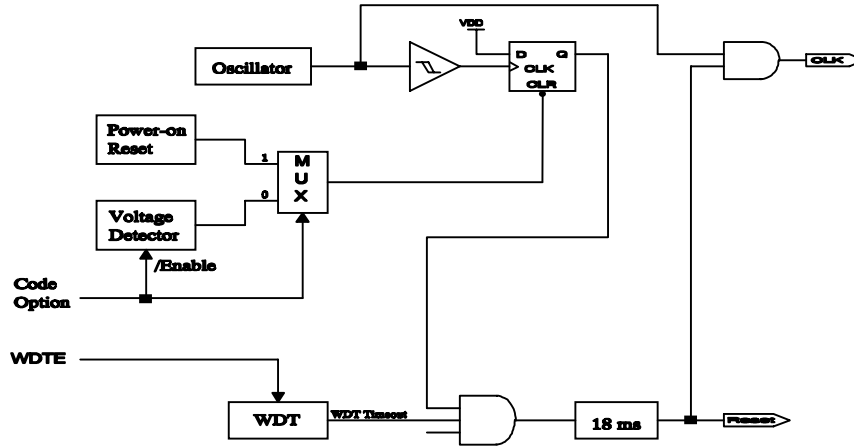

Fig. 8 Block diagram of Reset of controller
- (1) Power on reset, or Voltage detector
**(2) WDT timeout. (if enabled and in GREEN or NORMAL mode)**
Note that only Power on reset, or only Voltage detector in Case(1) is enabled in the system by CODE Option bit. If Voltage detector is disabled, Power on reset is selected in Case (1). Refer to Fig. 8.